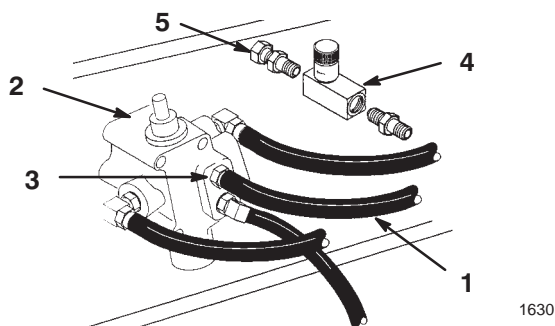

Figure 3
2. Remove hose at valve body (Fig. 3).